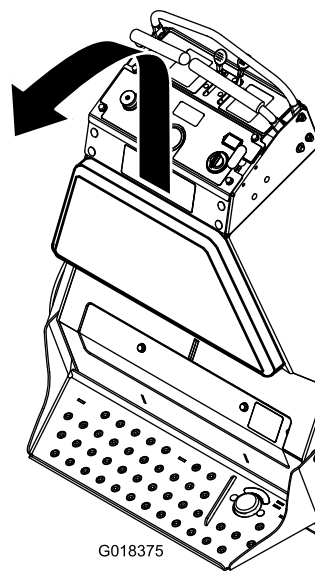

Figure 4
3. Loosen the 4 bolts inside the frame securing the rear pad to the unit. Lift the pad up and back to remove it (Figure 4).